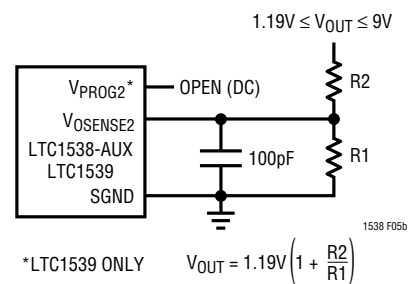

Figure 5b. LTC1538-AUX/LTC1539 Adjustable Applications
(DC) and the  $V_{\text{OSENSE2}}$  pin is connected to the feedback resistors as shown in Figure 5b. Controller 2 will force the externally attenuated output voltage to 1.19V.